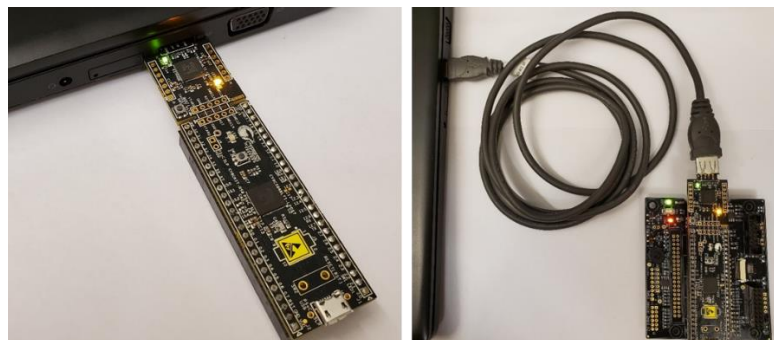

Figure 21. CY8CKIT-059 Prototyping Kit Connected to the PC
3. Connect the CY8CKIT-059 Prototyping Kit into the USB port of the PC directly or with an USB extension cable A-Male to A-Female as shown in Figure 21 (note that firmware flashing is always done via USB-A PCB connector, not micro-USB connector on the other side of the board).